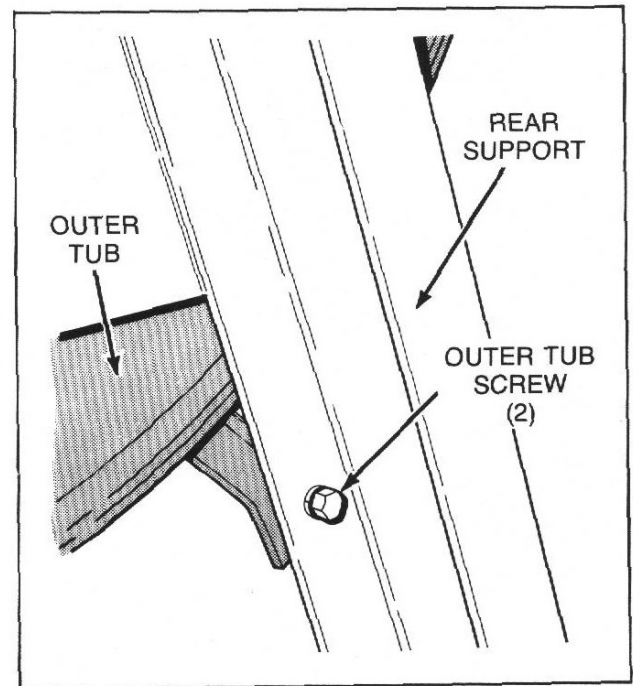

Figure 36
- j. Remove two screws, nuts, washers and lockwashers holding outer tub to rear support, *Figure 36*.